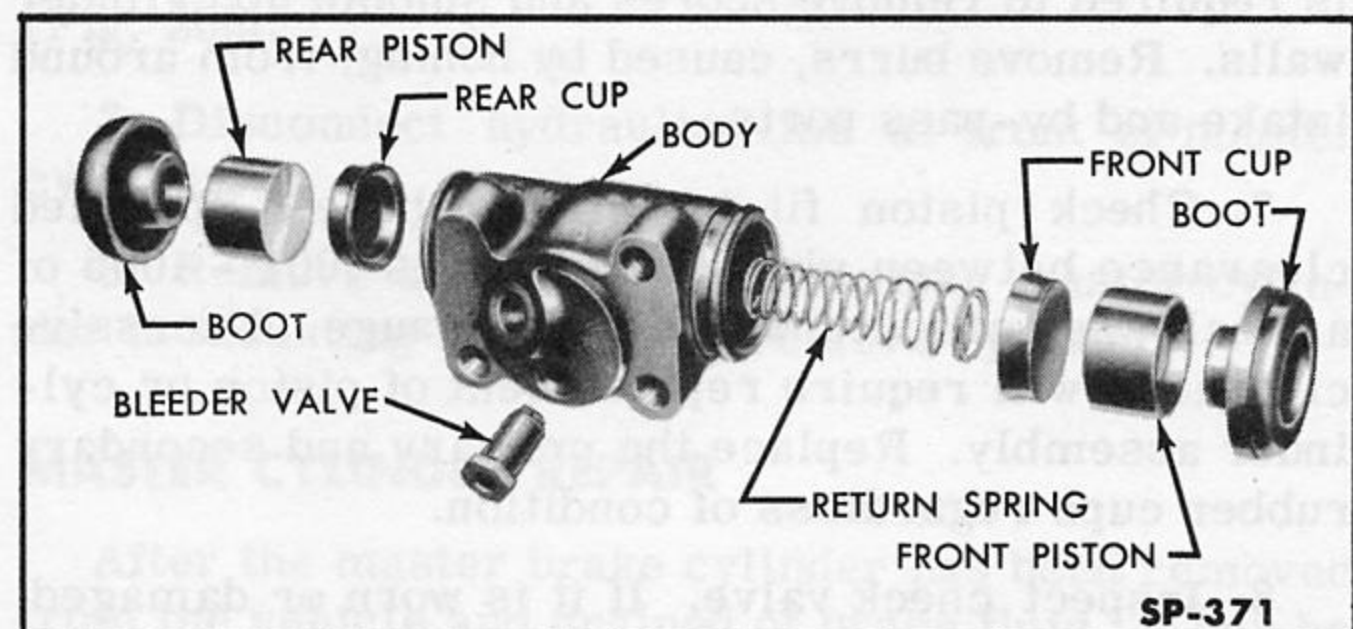

Fig. 207—Typical Wheel Cylinder—Exploded View
Each wheel cylinder consists of a cast body, return spring, front and rear pistons, front and rear rubber cups, two boots and a bleeder valve assembly (Fig. 207). The wheel cylinders are accessible for removal after the brake drums are removed.
1. Remove Clamp C-416 and end boots from cylinder body. Then remove pistons, cups and return spring from body (Fig. 207).